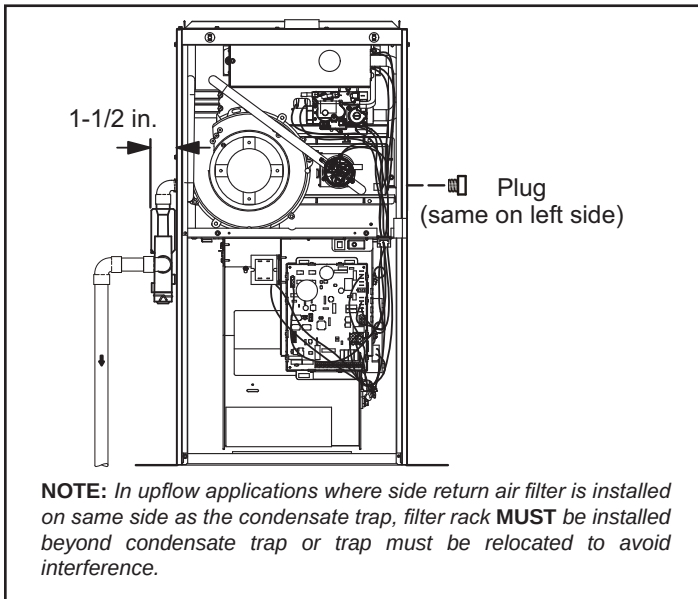

Figure 35. Condensate Trap and Plug Locations (Unit Shown in Upflow Position)
2. For furnaces with a 1/2" drain connection use a 3/8 allen wrench and remove plug (**Figure 35**) from the cold end header box at the appropriate location on the side of the unit. Install field-provided 1/2 NPT male fitting into cold end header box. For furnaces with a 3/4" drain connection use a large flat head screw driver or a 1/2" drive socket extension and remove plug. Install provided 3/4 NPT street elbow fitting into cold end header box. Use Teflon tape or appropriate pipe dope.